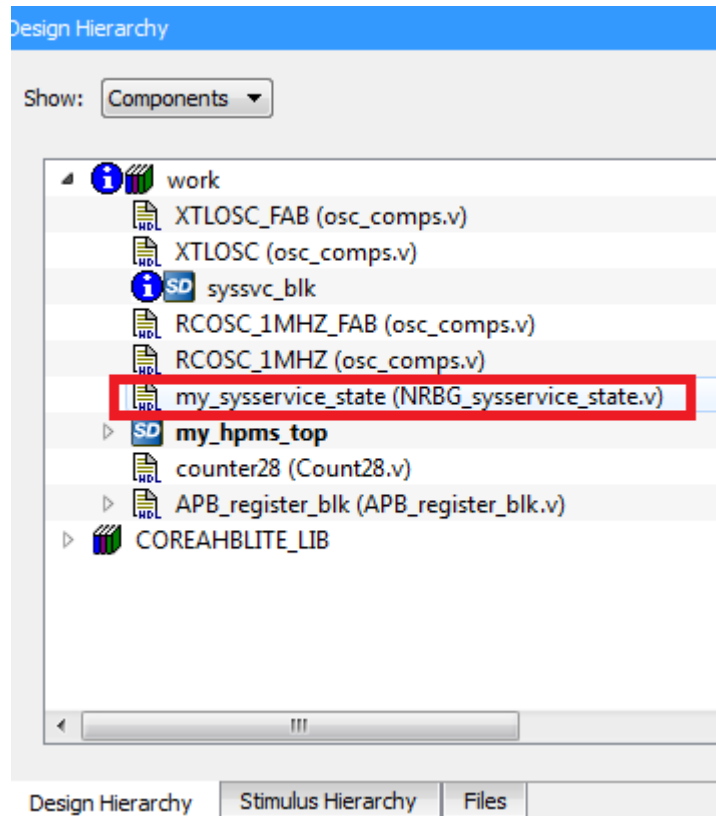

Figure 21 Adding NRBG State Machine Code in the SmartDesign Canvas
28. Drag **my_syservice_state** instance from the Design Hierarchy tab to the SmartDesign canvas. SmartDesign adds **my_syservice_state** and use **my_syservice_state_0** as the instance name, as shown in Figure 21.